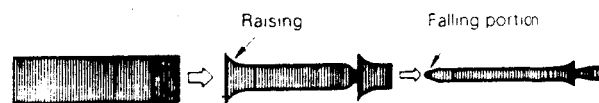

Fig. 2-5-6
- 5) By pushing the tracking buttons several times, vary the FM waveform output from maximum to minimum (and vice versa) gradually, and confirm that the waveform remains flat as in Fig. 2-5-6.